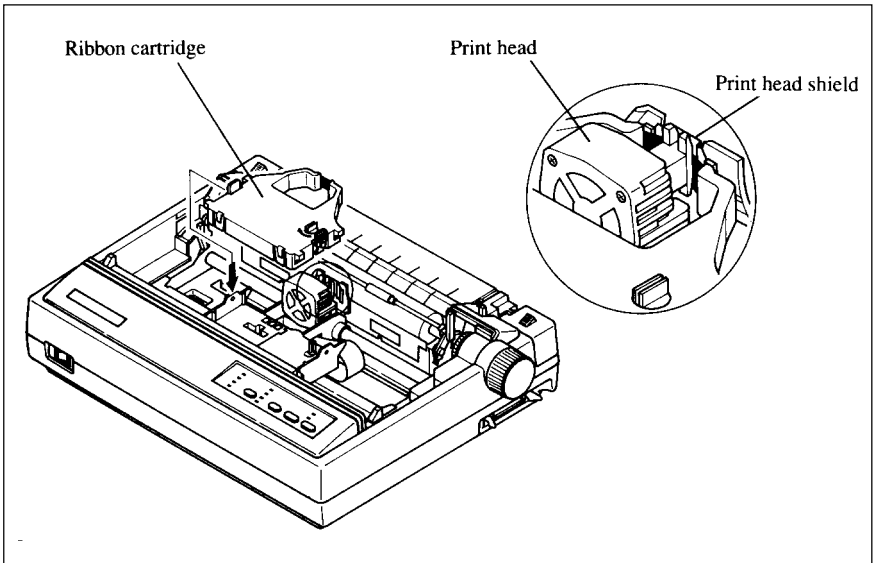

Figure 2-6. Installing the ribbon cartridge.
3. Make sure that the ribbon is positioned between the print head and the print head shield as shown in Figure 2-6.